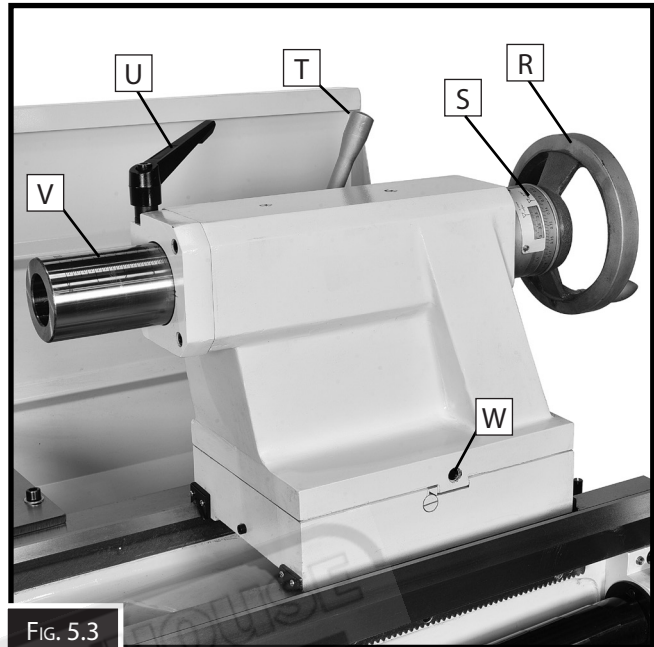
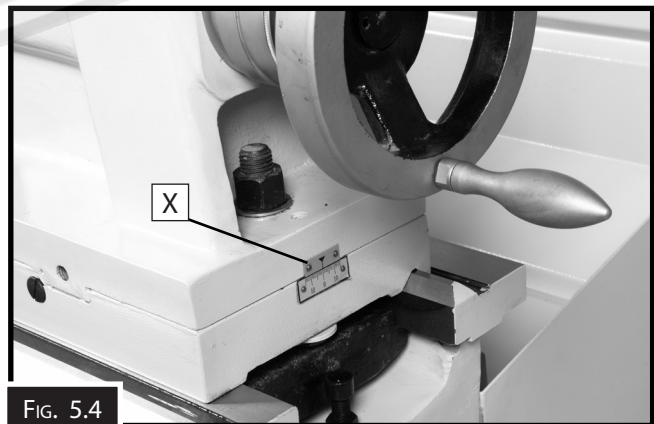

FIG. 5.3
FIG. 5.4
TAILSTOCK (Fig. 5.3)
- X. Offset Scale:** Indicates the relative distance of tailstock offset from the spindle centerline. (Fig. 5.4)
The tailstock is typically used to support long workpieces by means of a live or dead center. It can also be used to hold a drill or chuck to drill holes in the center of the end of a part. Custom arbors and tapers can also be cut on your lathe by using the offset tailstock adjustment screws (W in Fig. 5.3)
Note: The marks on the indicator on the end of the tailstock (Fig. 5.4) are only a guide. For a precise offset, use a dial indicator to check while adjusting the screws that are located on both sides of the tailstock. (W in Fig. 5.3)
(See Fig. 5.3 for adjustment screws)